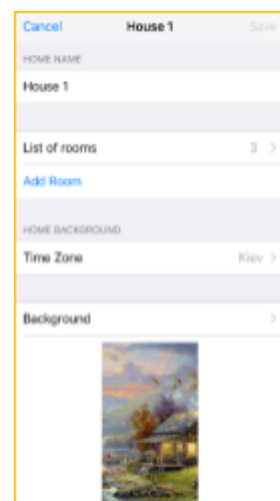

Figure 33
**10.8.3.** Edit appropriate data (Fig. 33):